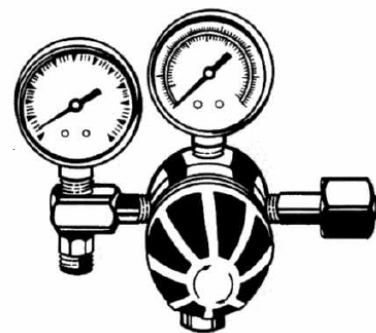

Figure 1
Bourdon Gauge (Figure 1)
- (a) Bourdon Gauge-Type Regulator (Figure 1)—Close the regulator by turning the adjusting knob counterclockwise until it turns freely. The cylinder valve may then be opened.